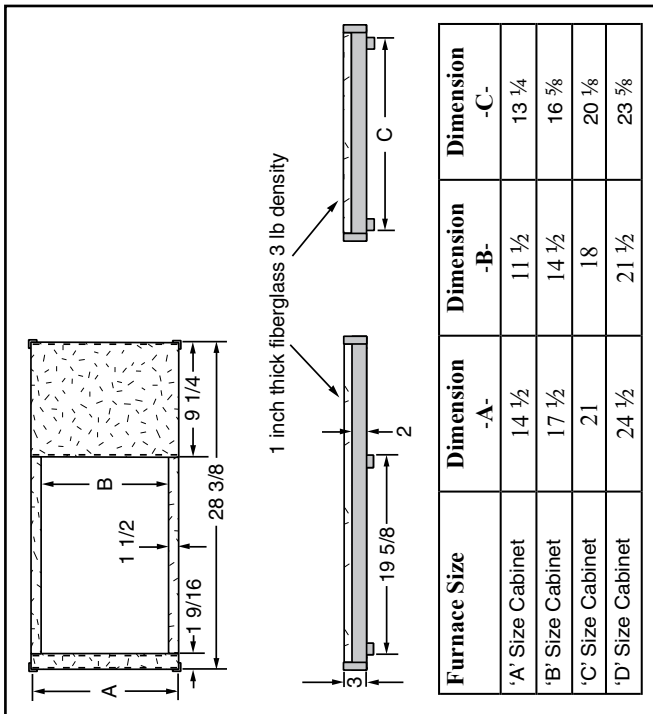

Figure 2. Sub-base and Insulation Dimensions
1. Cut the front and rear sections to the proper size. Refer to the dimensions in Figure 2 for proper sizing of the insulation pieces.